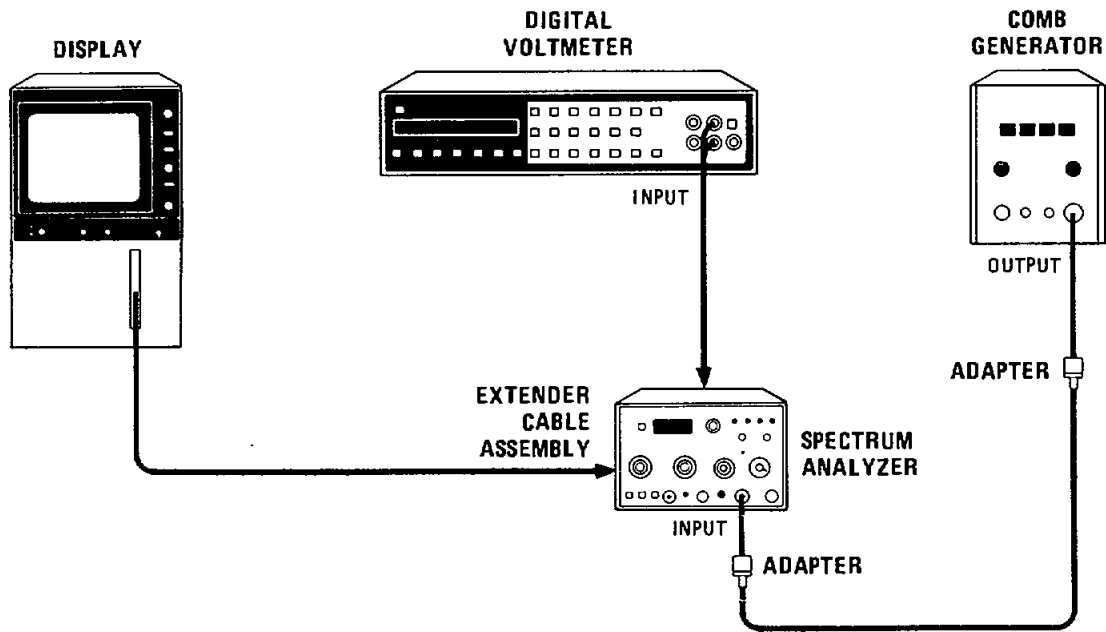

Figure 5-15. Frequency Control and DPM Adjustments Test Setup
- 1. Connect equipment as shown in Figure 5-15. Connect digital voltmeter to A7TP7 (located between A7R4 REF V and A7R5 + 14.5V adjustments).